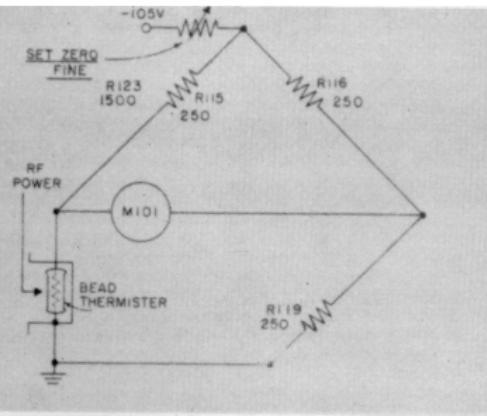

Figure 2-25. Basic Thermistor Bridge Circuit
(2) BASIC BRIDGE CIRCUIT. (See figure 2-25.)